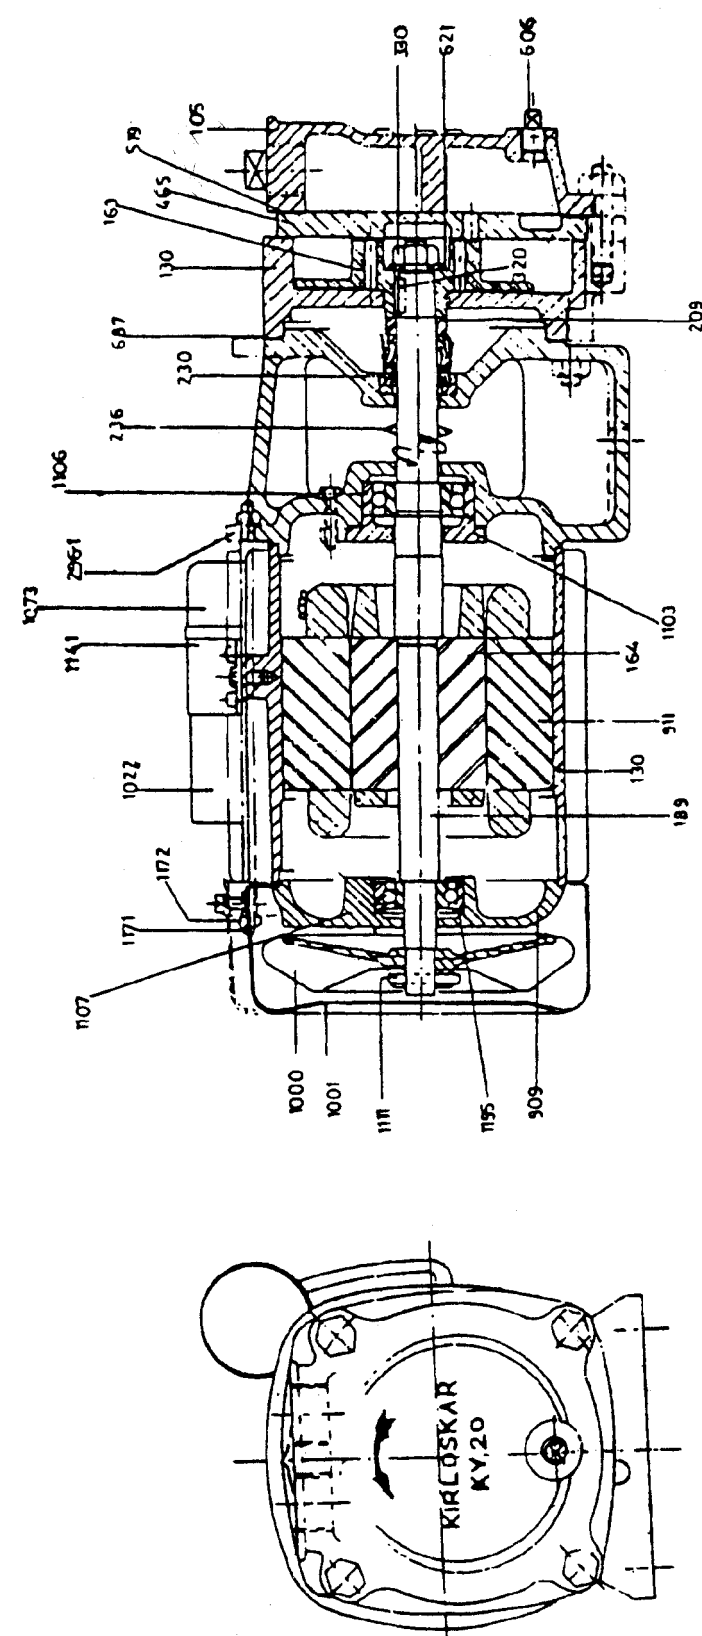

FIG NO. 3 CROSS SECT. ASSEMBLY FOR KV 20 PUMP
6.1 DISMANTLING PROCEDURE (Refer Cross Sectional Fig. No. 3 and 5).